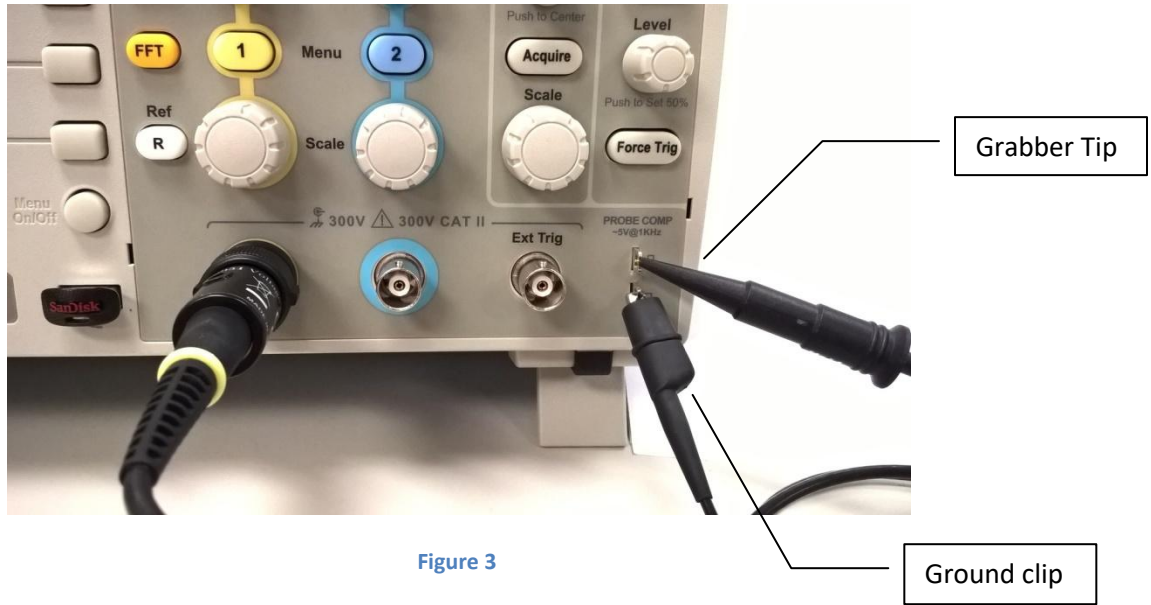

Figure 3
3. Connect the Probe tip to the PROBE COMP output as shown in **Figure 3**.